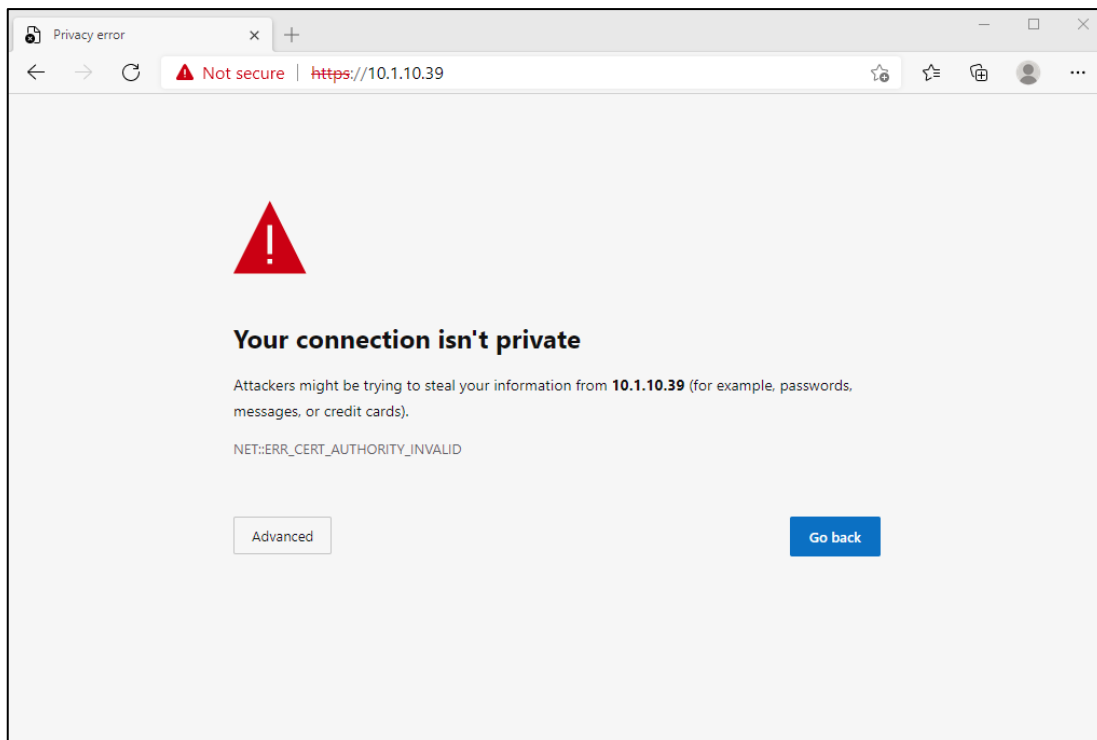

Figure 94: Accessing the built-in web server ("This site is not secure").
4. The browser might show you a warning about an invalid web server certificate, as illustrated in Figure 94. Make sure, that you have typed in the correct IP address.